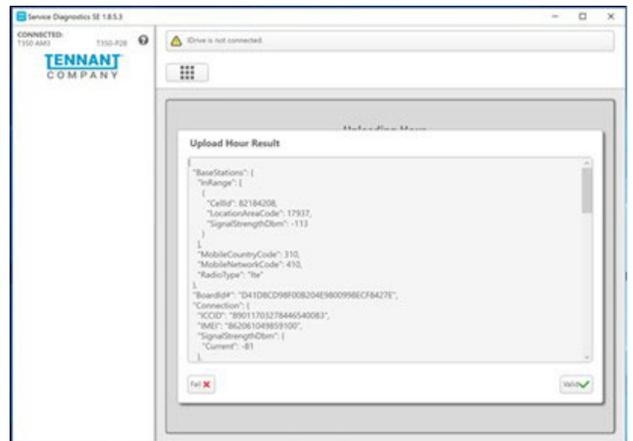

Fig. 20
15. Once the payload is ready; the screen will display all the information about the board as you can see below. Scroll down to see all the events happening in the machine (Figure 20).